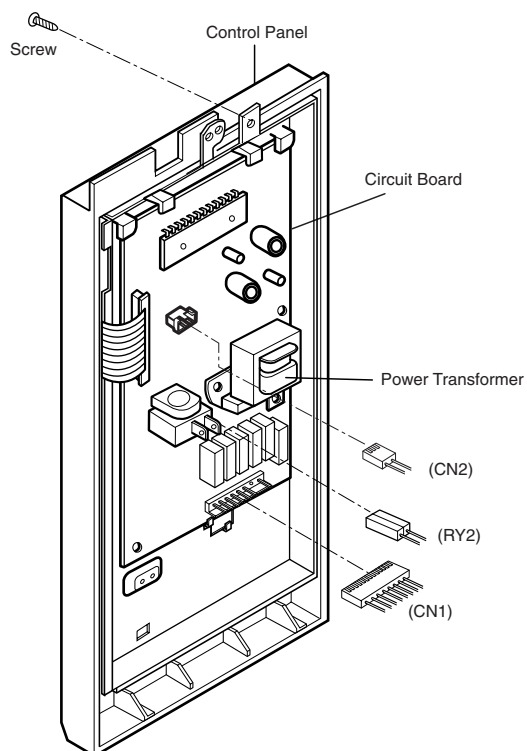

Figure 1
A. REMOVING POWER AND CONTROL CIRCUIT BOARD (Figures 1, 2 and 3)
- (1) Remove a screw securing the control panel assembly to the oven cavity.
- (2) Remove the control panel with pushing it upward.
- (3) Remove the connectors (CN1, CN2) and wire leads (RY2) from the circuit board.